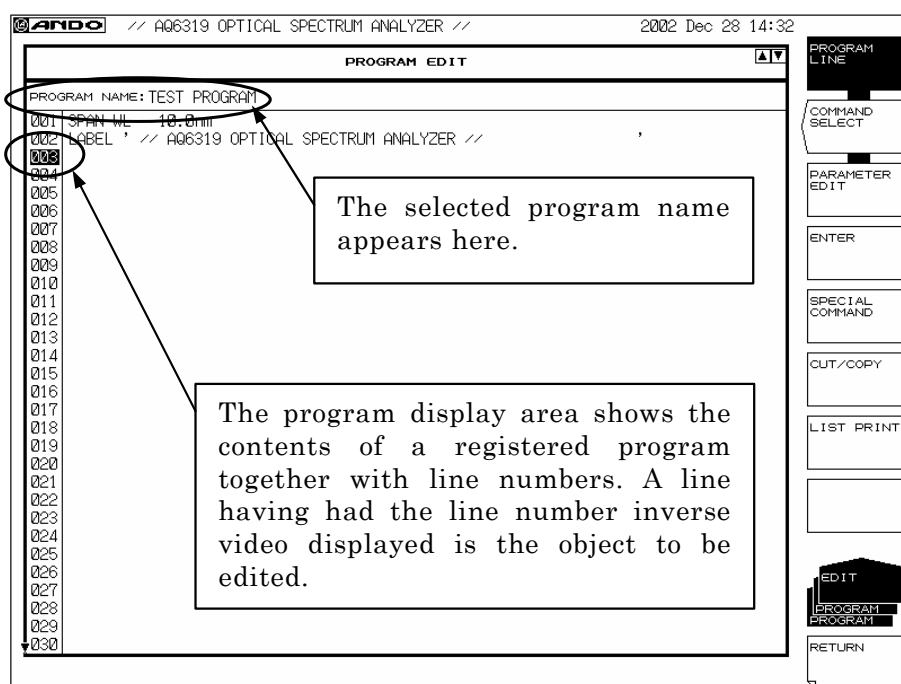
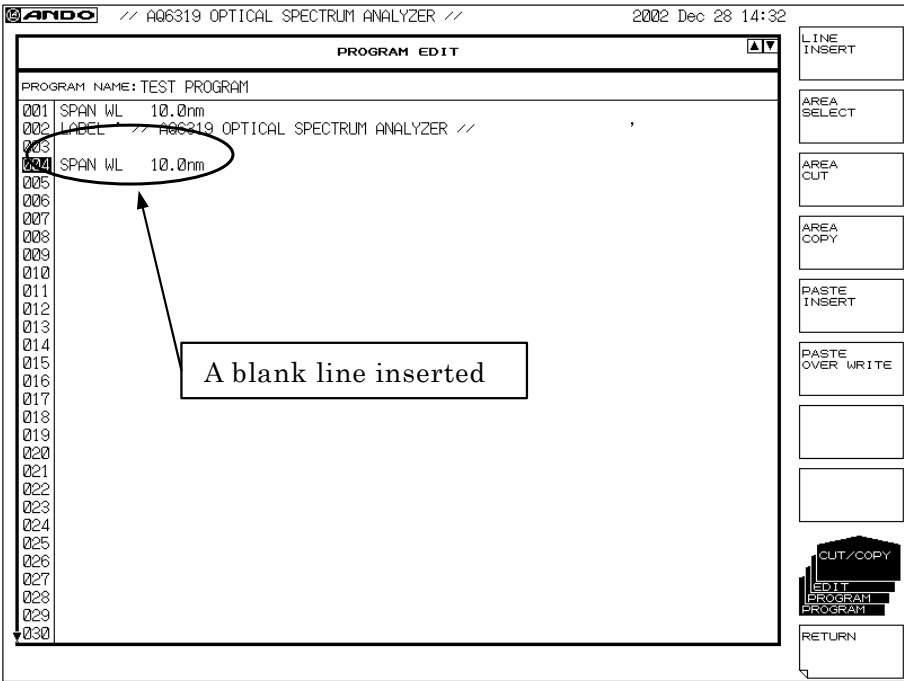

Figure 1-4: PROGRAM EDIT Screen
Figure1-10: Screen for Inserting a Line
① On the screen as shown in Figure 1-4, press a panel switch. This causes a list of commands corresponding to the pressed switch to appear in the right pane of the screen.
② Use the rotary knob or step keys to select a command to register and press the <ENTER> key.
- ① On the screen as shown in Figure 1-4, press the <SPECIAL COMMAND> key.
- ① On the PROGRAM EDIT screen as shown in Figure 1-4, use the rotary knob or step keys to select the line number of the command you wish to modify from among the already input commands with parameters.
- ② Press the <PARAMETER EDIT> key.
- ① On the PROGRAM EDIT screen as shown in Figure 1-4, press the <CUT/COPY> key. This will move you to the screen shown in Figure 1-10.
- ② Move the cursor to the location where you wish to insert a line and press the <LINE INSERT> key. This causes a blank line to be inserted into the position where the cursor is.
- ② Move the cursor to the location where you wish to delete a line and press the <AREA CUT> key. This deletes the line inverse-video displayed and causes the successive programs to be shifted up by one line each.
- ② Use the rotary knob or step keys to select and display the line number of the starting point for the area specification in inverse video and press the <AREA SELECT> key.
- ③ Use the rotary knob or step keys to specify an area up to the line number of the ending point for the area specification to display the area in inverse video.
- ④ Press the <AREA CUT> key. This deletes the area specified in step ③ entirely and causes the remaining programs to be shifted up to the first line of the setting range.
- ② Use the rotary knob or step keys to select and display the line number of a line to copy in inverse video and press the <AREA COPY> key.
- ③ Use the rotary knob or step keys to move the inverse video display to a line where you wish to insert the copied line and press the <PASTE INSERT> key.
- ③ Use the rotary knob or step keys to move the inverse video display to a line where you wish to overwrite the copied line and press the <PASTE OVER WRITE> key.
Pressing the <LIST PRINT> key on the PROGRAM EDIT screen shown in Figure 1-4 causes a list of the first to the final lines of the program being edited to be output to the internal printer.